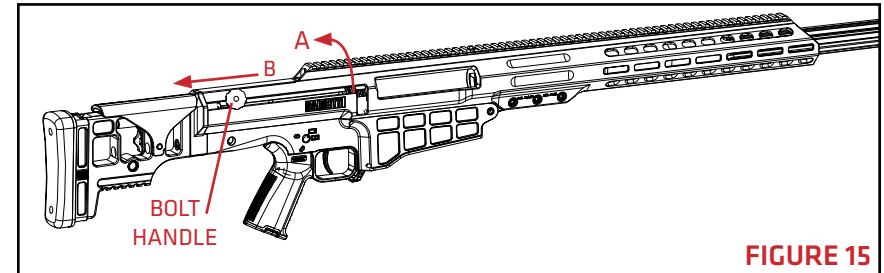

FIGURE 15
2. Lift the bolt handle upward (**FIGURE 15-A**), and pull it to the rear (**FIGURE 15-B**). This will eject any ammunition or fired cartridge case.